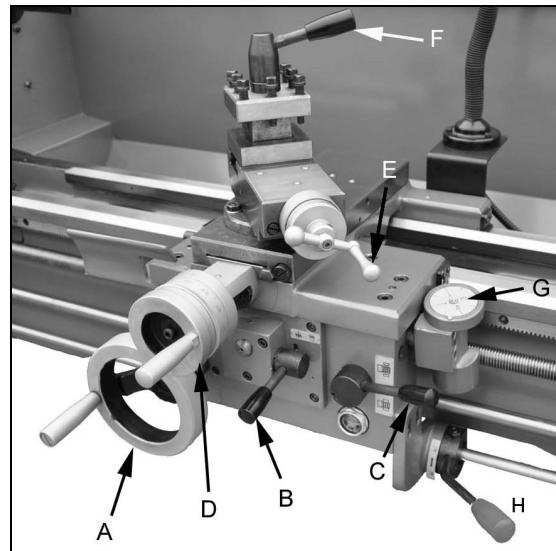

Figure 9-2
9. **Longitudinal Traverse Handwheel** (A, Figure 9-2) – Rotate handwheel clockwise to move apron assembly toward tailstock (right). Rotate handwheel counterclockwise to move apron assembly toward headstock (left).
10. **Feed Selector** (B, Figure 9-2) – Push lever to the left and down to activate crossfeed function. Pull lever to the right and up to activate longitudinal function.
11. **Half Nut Engagement Lever** (thread cutting) (C, Figure 9-2) – Move lever down to engage. Move lever up to disengage.
12. **Cross Traverse Handwheel** (D, Figure 9-2) – Clockwise rotation moves cross slide toward rear of machine.
13. **Compound Slide Traverse Handwheel** (E, Figure 9-2) – Rotate clockwise or counterclockwise to move or position.
14. **Tool Post Clamping Lever** (F, Figure 9-2) – Rotate counterclockwise to loosen and clockwise to tighten. Rotate tool post when lever is unlocked.
15. **Threading Dial** (G, Figure 9-2) – Engage by pushing into the leadscrew. Pull out to disengage. The dial indicator and chart will specify at which point a thread can be entered.
16. **Forward/Reverse Lever** (H, Figure 9-2) – Pull lever up for clockwise spindle rotation (reverse). Push lever down for counter-clockwise spindle rotation (forward). Neutral position is a center detent and spindle remains idle.